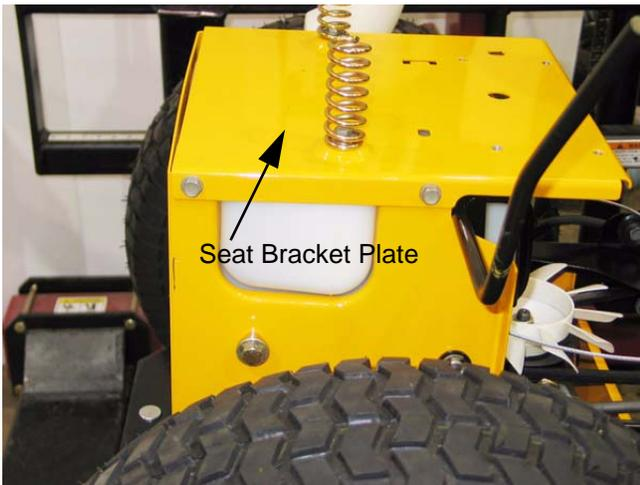

Figure 6.15
6.15. Remove the plate that supports the seat brackets using a 1/2" wrench. See Figure 6.15.